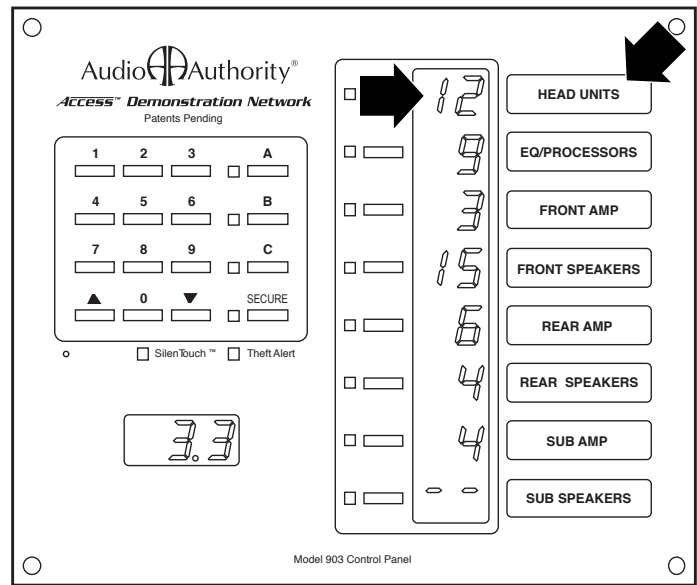

Figure 15. This is how product groups appear on the 903 Control Panel. The display shows Head Unit # 12 is currently selected.
2. Note that the front amps and speakers have matching group numbers as do the rear amps and speakers. See Figure 15 to see how the 903 Control Panel usually arranges these product groups.